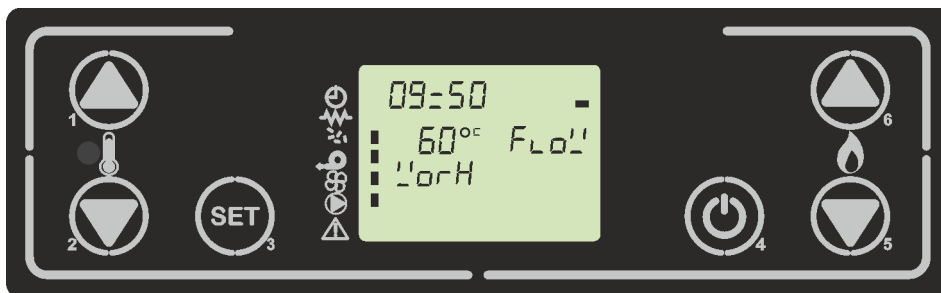

figure 20
N.B If the flowmeter switch is present and the contact is closed (on display instead of the power stove, appears the word “FLUSS” with a horizontal segment above it) the stove doesn’t go into modulation, but goes at maximum power to guarantee the temperature of water sanitary. *Figure 20*